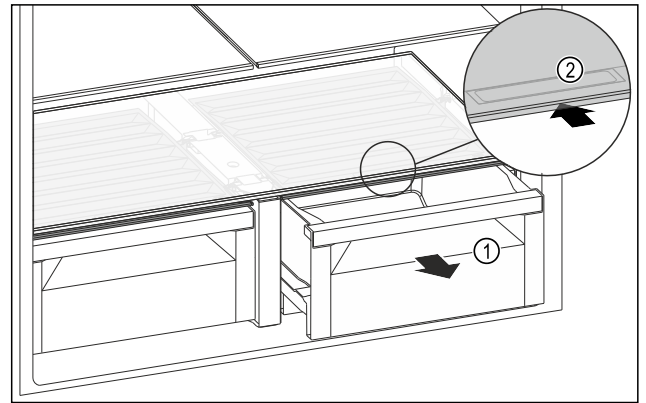

Fig. 105
- Pull out the drawer *Fig. 105 (1)*.
- Grasp the recessed grip *Fig. 105 (2)* on the compartment lid and push the compartment lid backwards at the same time.